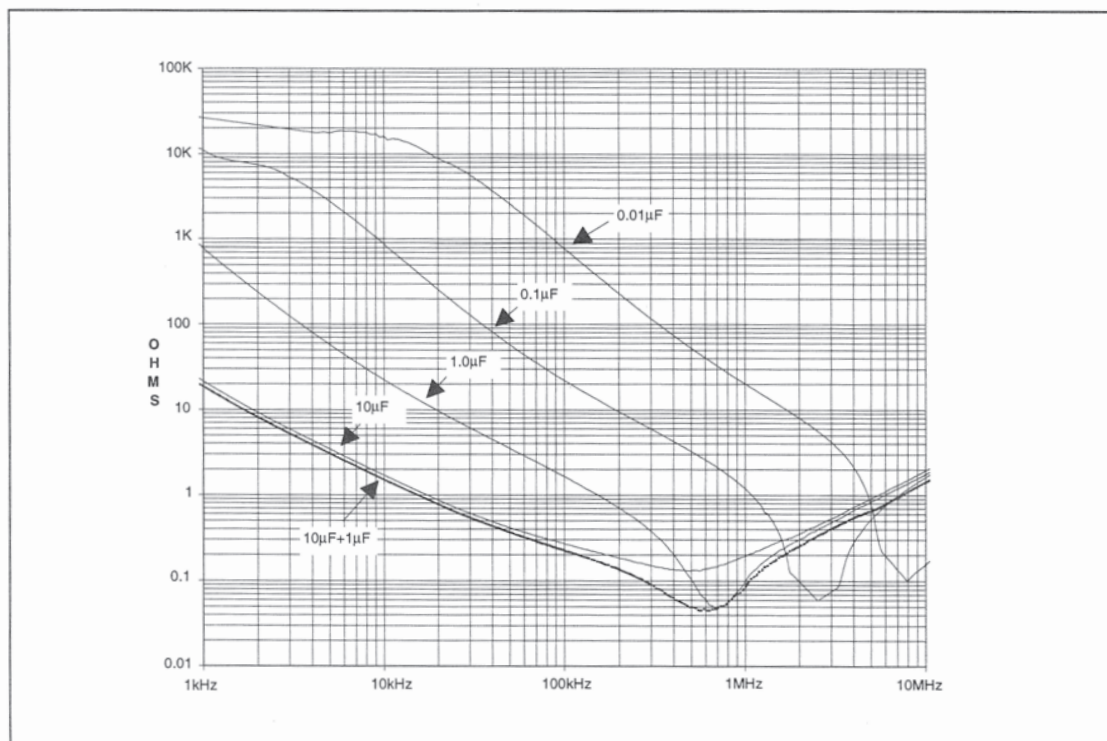

Figure 16. Impedance vs frequency for different value capacitors
bypass capacitors used from 10 nF through 10 μF is shown in Figure 16. Match the effective frequency of the noise to be filtered with the capacitor reaching its lowest impedance at the same, or closest frequency. For example, if switching transitions have 100 nanosecond periods, the frequency of interest to achieve optimal bypassing is 1/100 ns, or 10 Mhz. If other noise at different frequencies exist, then consider paralleling different capacitor values - with different resonant impedance minimums to adequately bypass each noise frequency of interest. Overcome the tendency and loyalty to not use values less than 0.1 μF in high frequency applications. Quite often, many smaller value capacitors between 0.001 μF and 0.047 μF provide the same - if not better bypassing to the high frequency noise in a switchmode power supply environment.
0.01 μ F capacitor parallel bypassing network would reduce the effective impedance over a much wider span of noise frequencies than any one capacitor in particular. One example of this is shown in Figure 16 where the impedance of a 1 μ F in parallel with a 10 μ F capacitor closely approximates the attributes of each, over frequency